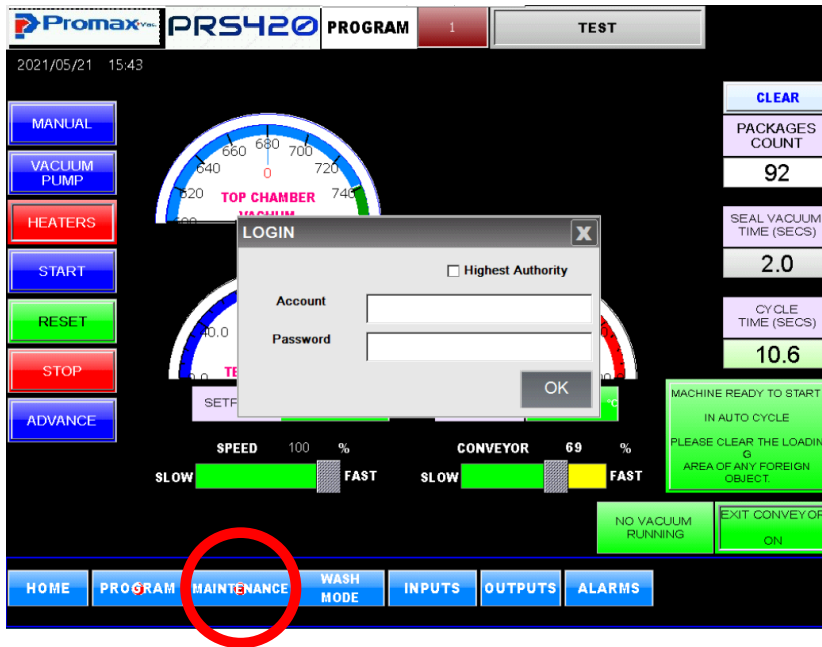

Fig.OP-5.20
-Press the Maintenance button on the left side of the home screen (Fig. OP-5.20) and a password screen will appear .